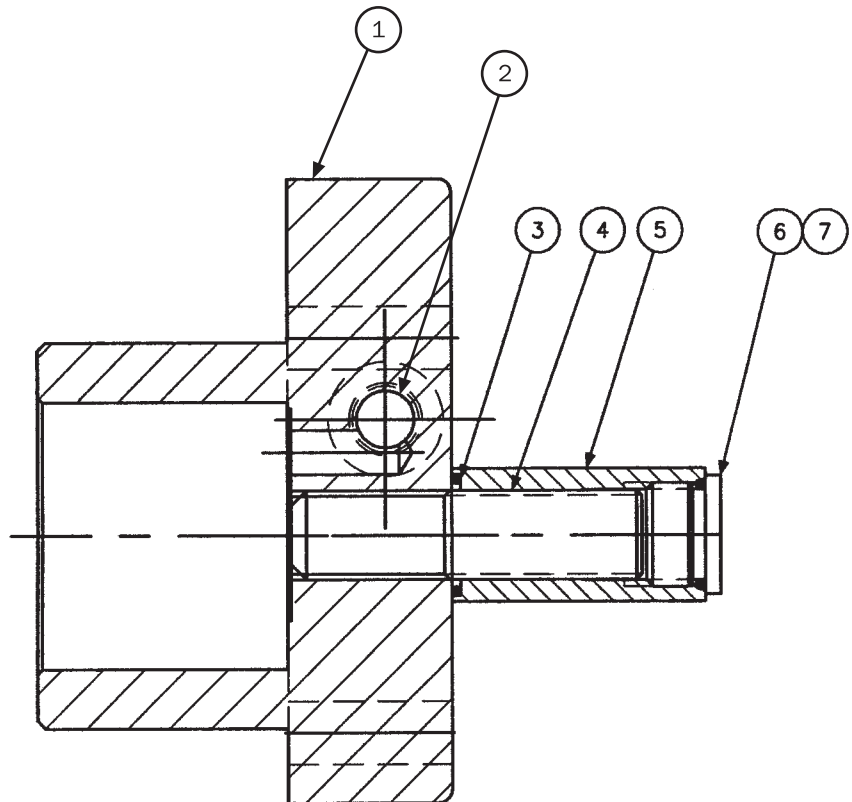

FIGURE 7
1. See Figure 7. Remove cover (5) and Max. volume screw (4).
PARTS LIST FOR FIGURE 7